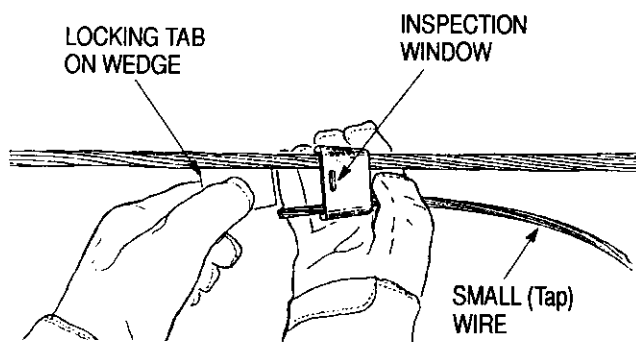

Figure 3 92-263B
3. Push wedge into "C" member, making sure that the locking tab on wedge is on the same side as the inspection window of the "C" member. Strike wedge with pliers to hold wedge in place. See Figure 3.
- Revised NOTE following Figure 3